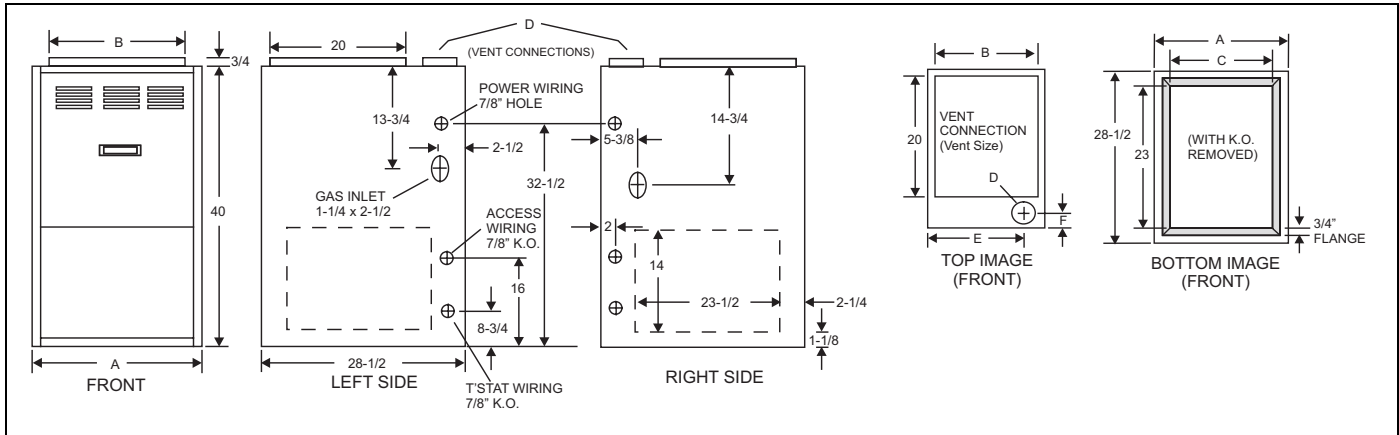

FIGURE 1: Dimensions
5. Be sure to seal the furnace to plenum connections to prevent air leakage. Refer to Figure 1 for unit and plenum dimensions.
IMPORTANT: Some accessories such as electronic air cleaners and pleated media may require a larger side opening. Follow the instructions supplied with that accessory for side opening requirements. Do not cut the opening larger than the dimensions shown in Figure 1.